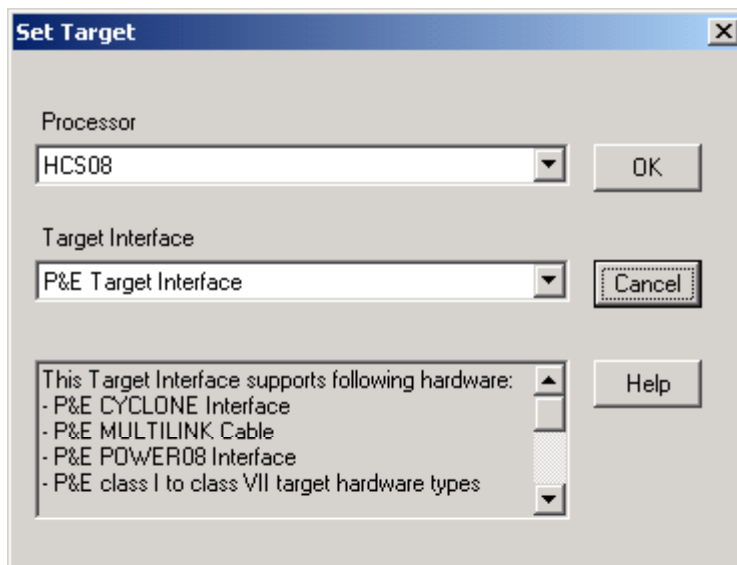

Figure 16 Set Target Window
2. From the main window, setup the target by selecting Setup Target, then select the “Component” menu, and click on “Set Target”. The “Set Target” window appears as shown in Figure 16.